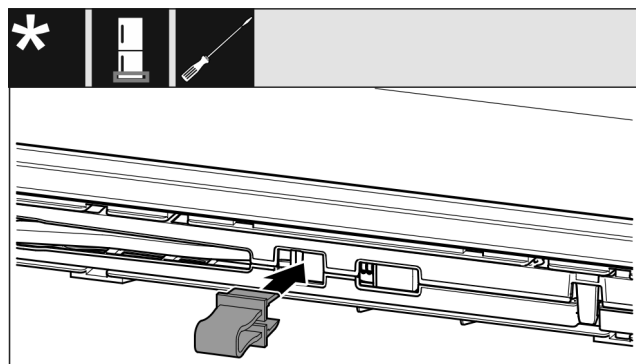

Fig. 16
- Snap the locking device into the opening. (see Fig. 16)